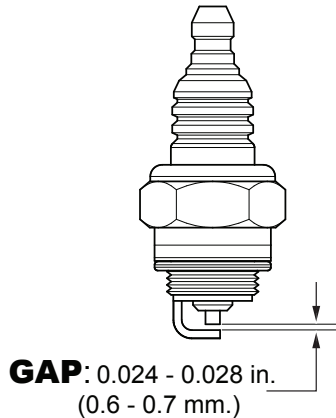

Figure 35. Spark Plug Gap
1. Remove and clean the spark plug (Figure 35), then adjust the spark gap to 0.024~0.028 inch (0.6~0.7 mm). This unit has electronic ignition, which requires no adjustments.